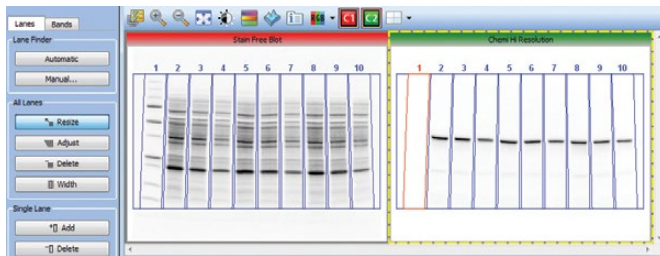

Fig. 5. Lane detection of the chemiluminescent blot.
- Copy (PC: Ctrl-C; Mac: Command-C) the lanes established from the stain-free blot and paste (PC: Ctrl-V; Mac: Command-V) to the chemiluminescent blot (Figure 5). Adjust lanes on the chemiluminescent blot, if needed